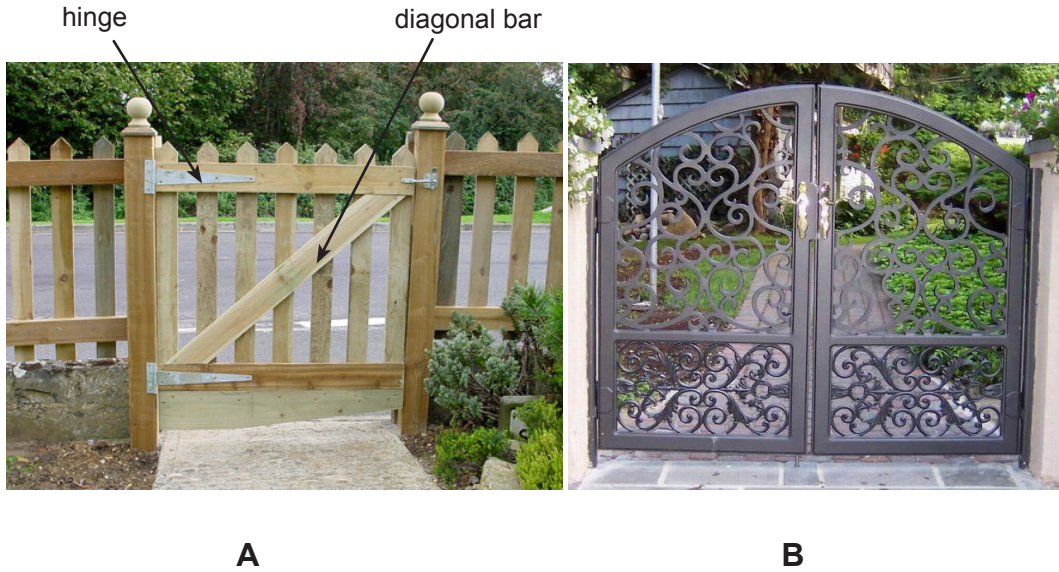

Fig. 5
- 6 Fig. 5 shows two types of garden gate. Gate **A** is made from wood and gate **B** is made from metal.